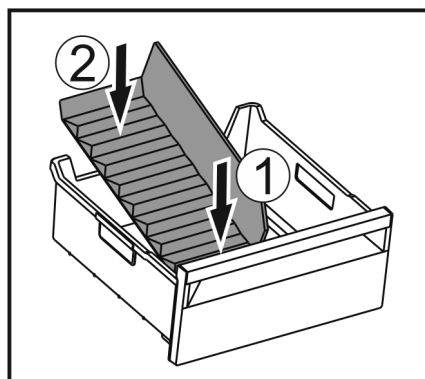

Fig. 145
- Insert the front part of the ice compartment divider. Fig. 145 (1)
- Lower the rear part of the ice compartment divider to the drawer bottom. Fig. 145 (2)